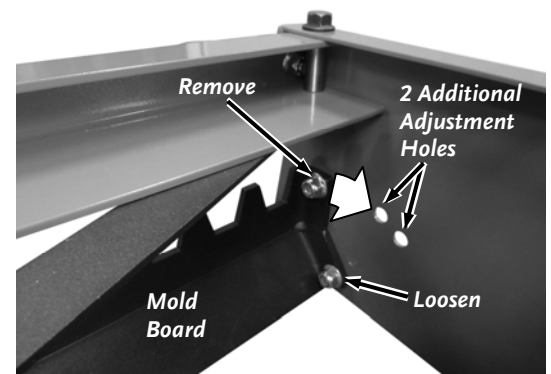

Figure 36
1. Remove the top Bolt and Locknut on both ends of the Mold Board using two 9/16" Wrenches (Figure 36).